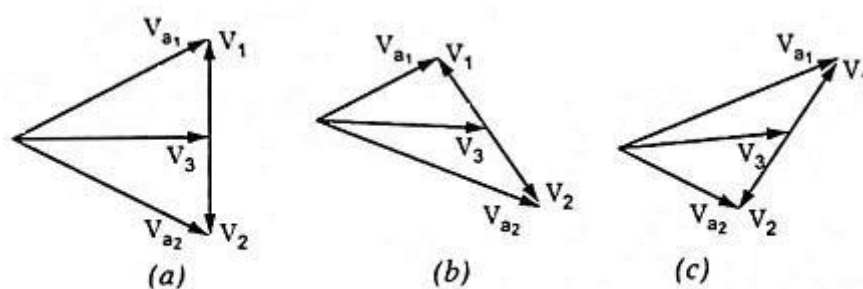

Fig. 22.55 Phasor Diagram
Voltage V_{a1} and V_{a2} depend upon the phase relations between V_1 , V_2 and V_3 . The phasor diagrams of Foster Seeley Detector for different frequencies have been shown in Fig. 22.55. The phasors V_1 and V_2 are always equal in magnitude but in phase opposition. However, the phase position of V_1 and V_2 relative to V_3 would depend upon the tuned secondary coil at the resonance or off the resonance as discussed below:
has been indicated in Fig. 22.55 (a). The resultant voltages V_{a1} and V_{a2} are equal in magnitude.
2. Off Resonance: When the input voltage is off the resonant frequency f_{if} of the tuned secondary, the phase position of V_1 and V_2 relative to V_3 will be different from 90° . Let Q_s be the quality factor of tuned secondary coil. When an input signal frequency exceeds the resonant frequency f_{if} by an amount $f_{if}/2Q_s$ the phase difference between V_3 and V_1 is 45° as shown in Fig. 22.55 (b). Because V_2 is in phase opposition of V_1 , the phase difference between V_3 and V_2 is 135° . The phasor diagram shown in Fig. 22.55 (b) reveals that V_{a1} is reduced whereas V_{a2} is increased. The situation is reversed when the input voltage has a frequency below f_{if} which is evident from the phasor diagram shown in Fig. 22.55 (c). Thus the magnitude of the voltages V_{a1} and V_{a2} will vary with the instantaneous frequency f in the manner shown in Fig.